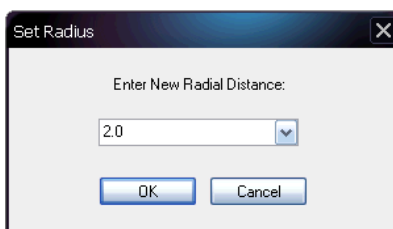

Figure 140: Solution Plot – Set Radius
- ✓ **Radius:** Click to set the radius of the plot. The *Set Radius* window opens (see Figure 140). The default radial distance is 2.0 m. Click the drop-down menu to select a new radial distance.